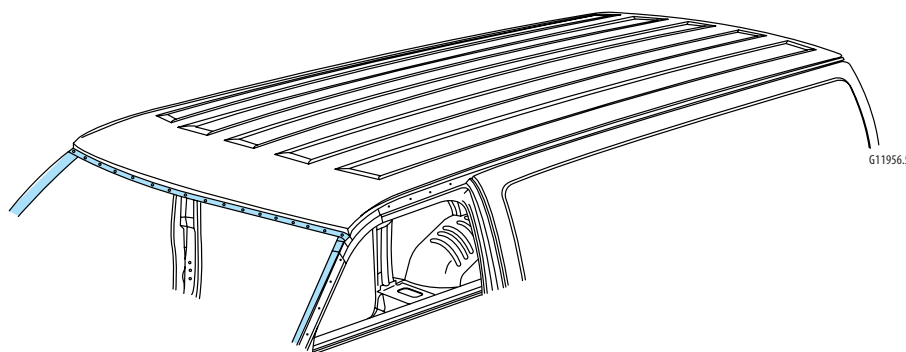

Figure 6-5:
5. Clean and prepare all surfaces. The bonding area should be a primer surface ONLY, and NOT an aftermarket top coated (paint, or color coated) surface. Materials such as BASF DE17, Dupont 2610, or PPG DP40, or equivalent, are appropriate for this application (figure 6-5).